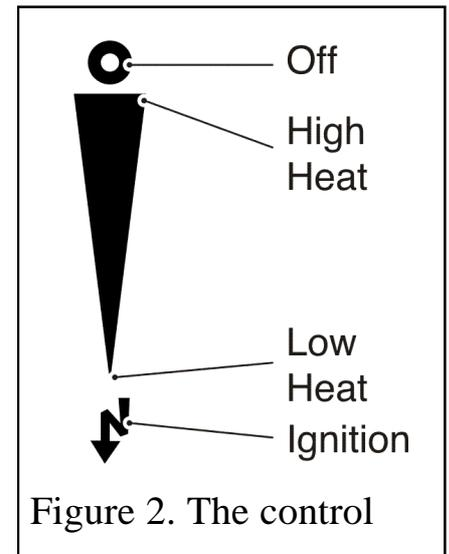

Figure 2. The control
The slide control is shown in figure 2.
3. If low heat is required, release the button. The button will automatically spring up to the low heat position shown in figure 2 (See note i below).
4. For a higher heat level slide the button upwards. The burner flames and heat output will gradually increase until the button reaches the high heat position shown in figure 2. When the button reaches the high heat position you will feel a check to its movement.